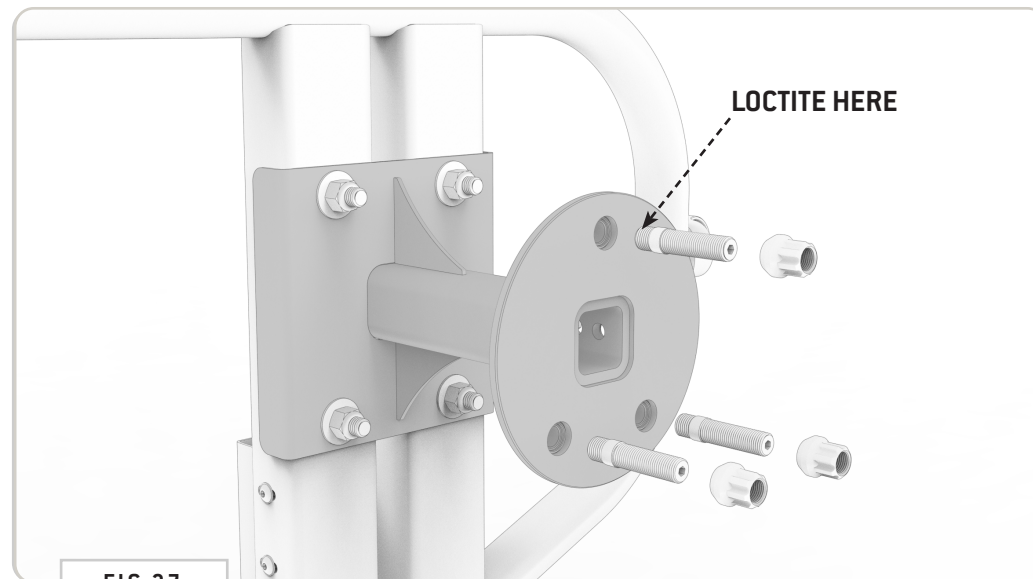

FIG 37
**8.1 Wheel Studs and Lug Nuts:** Apply Loctite to the **Wheel Studs** on the short end and screw them into the threaded locations on the **Wheel Bracket**. Tighten with a **6MM Allen Wrench** (FIG 37).